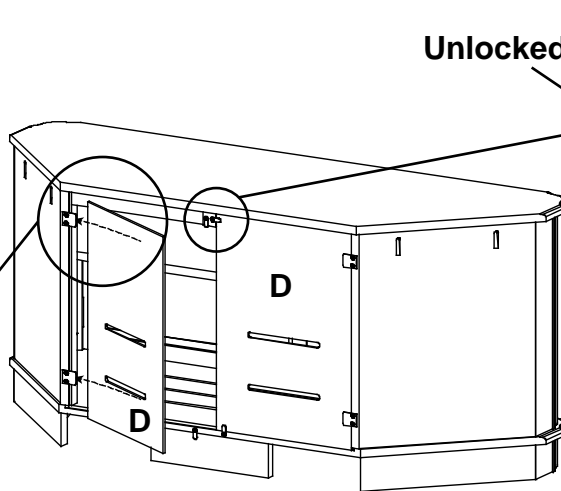
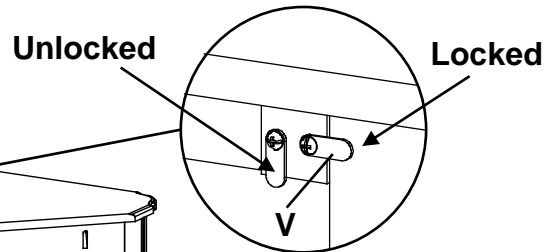

Fig. 3
Fig. 3b
- To place your media components and access wires more easily, you may want to detach the Removable Backs (D). To do so, unlock the Turn Buttons (V) as shown in Figures 3 and 3a. Slide the Backs away and place them off to the side. To put them back into place, slide the Backs behind the Drawer Stops (S) and position the Turn Button so that it is locked. See Figure 3b.